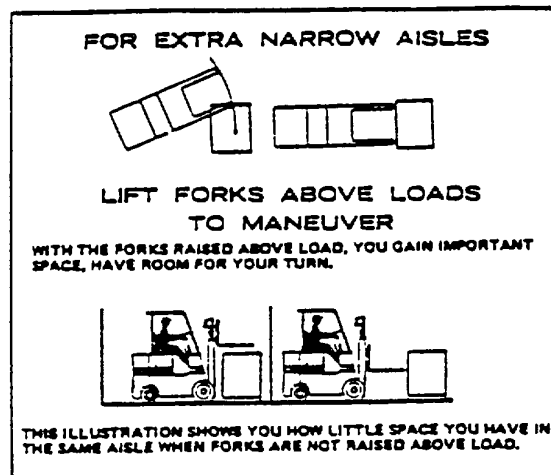

Figure 4-9. Narrow Aisle Maneuver
- l. To maneuver in narrow aisles, raise forks to clear the stock pile and gain additional maneuvering area. Extra care must be taken with the forks raised. Watch for low-hanging object such as water pipes, electrical lines, etc. (Fig 4-9).